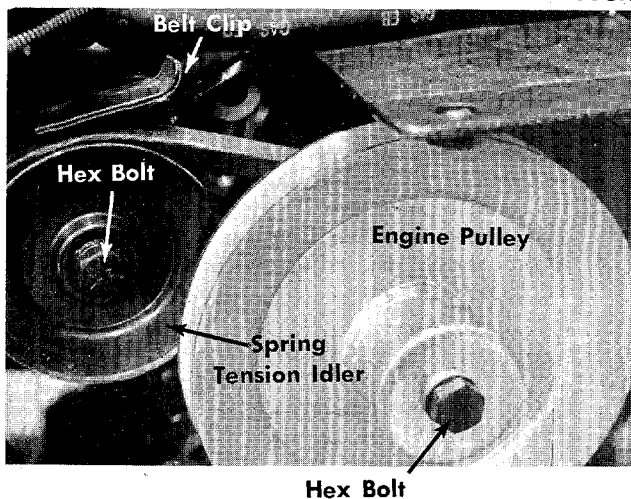

FIGURE 31. ENGINE PULLEY
- Step 3. Remove the hex bolt holding the engine pulley to the crankshaft of the engine. Pull the pulley off so the belt can be removed. See figure 31.